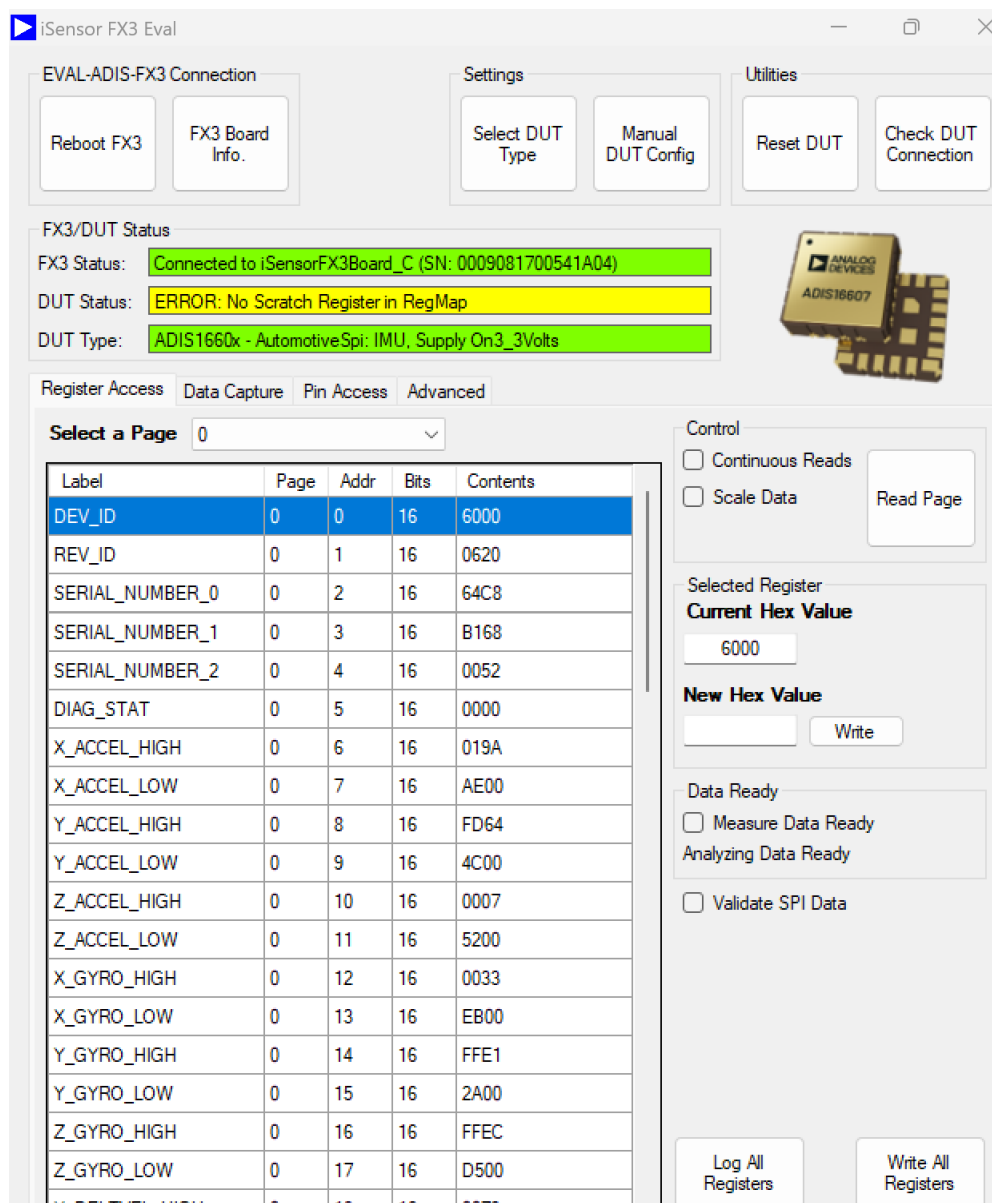

Figure 3. iSensor FX3 Eval Window
9. The **iSensor FX3 Eval** window should now show the **FX3 Status** and **DUT Type** boxes in green as shown in Figure 3.